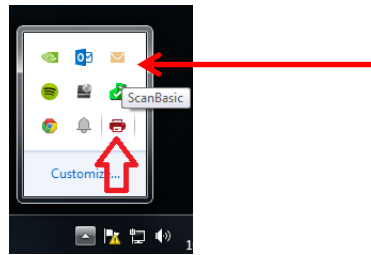

Fig. 10
- a) Launch the ScanBasic® application by double-clicking the icon on your systems tray (Fig.10) or the shortcut icon on your desktop.